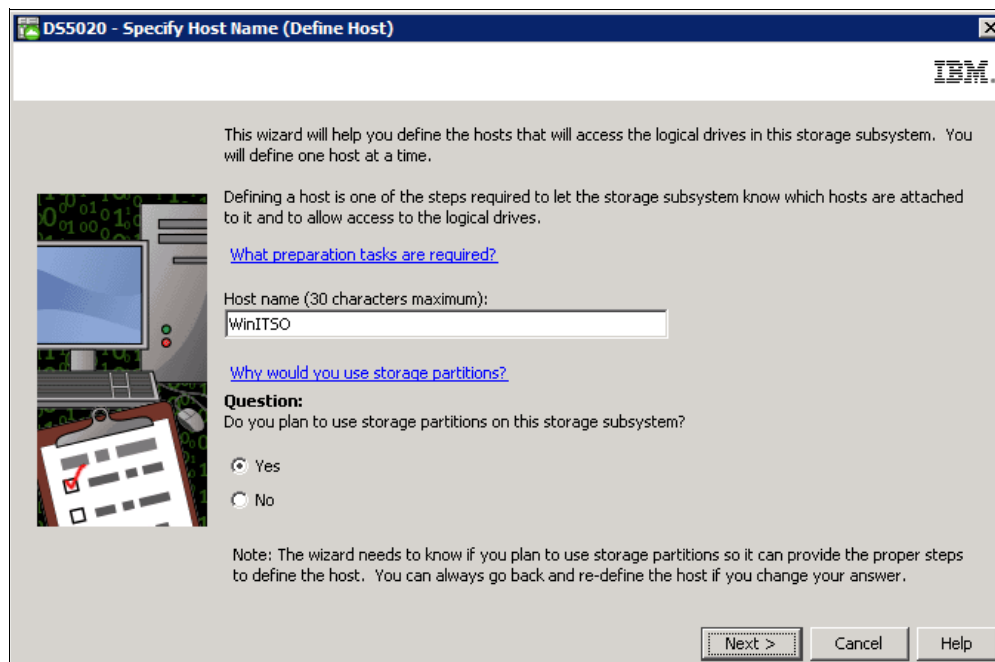

Figure 3-68 Define Host wizard
- The first window of the wizard is an introduction (Figure 3-68). You are asked to assign a name to the host being defined, and whether you plan to use storage partitioning.